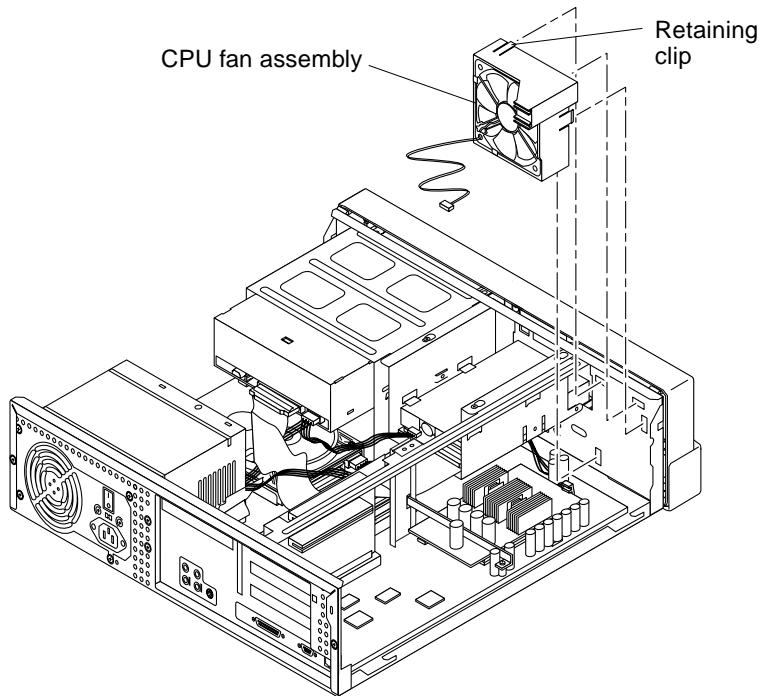

FIGURE 6-7 Removing and Replacing the CPU Fan Assembly
2. Remove the CPU fan assembly as follows (FIGURE 6-7):
- 1. Replace the CPU fan assembly as follows (FIGURE 6-7):**